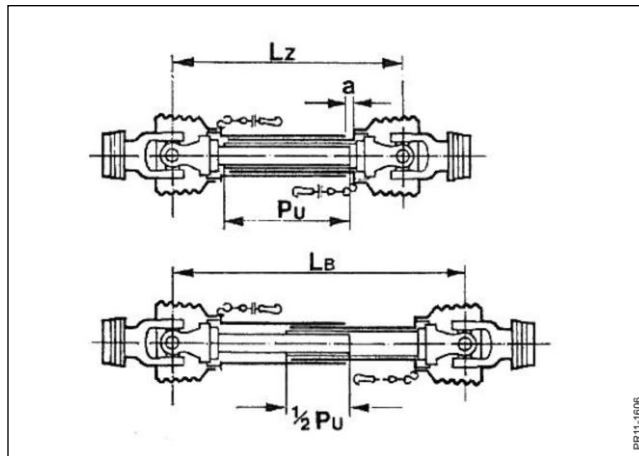

Fig. 2.8
- Fig. 2.8** Adjust the length of the PTO shaft so that it:
IMPORTANT: The specified values for overlapping on the tubes of the PTO shaft must be observed as shown on figure. 2.8.